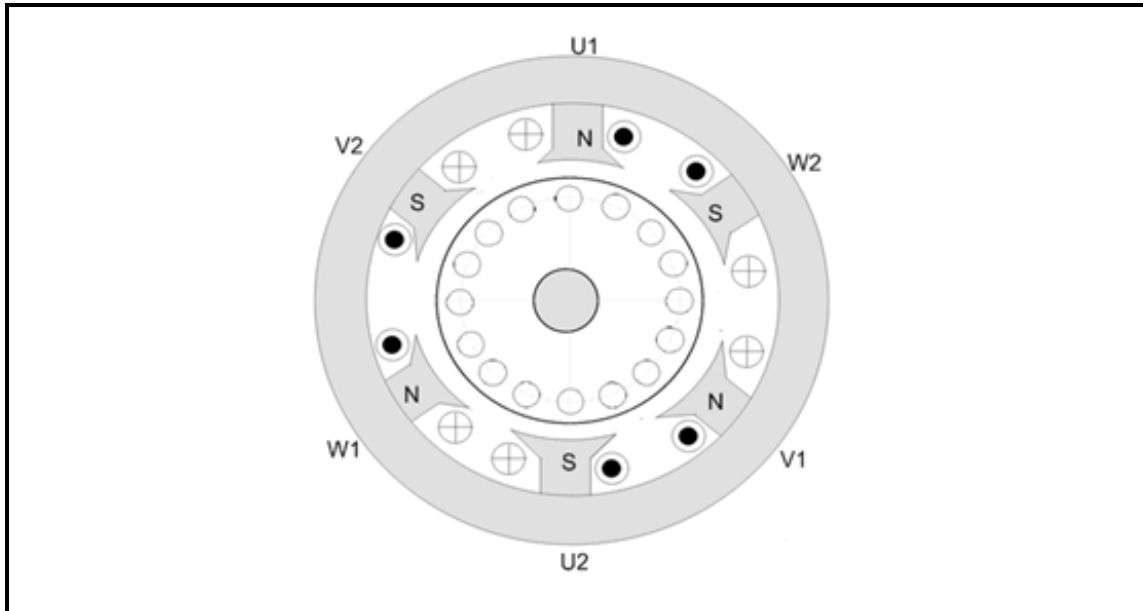

FIGURE 4.1: THREE-PHASE SQUIRREL-CAGE INDUCTION MOTOR
4.1 Refer to FIGURE 4.1 below and answer the questions that follow.
- 4.1.1 Name any TWO parts of the motor in FIGURE 4.1. (2)